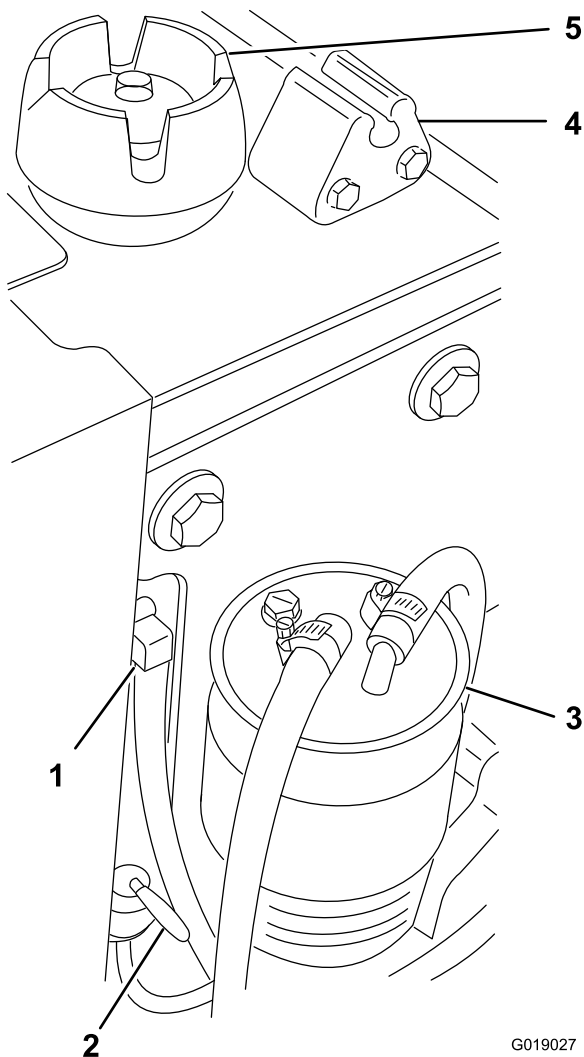

Figure 23
4. Remove the fuel cap and sensor assembly (Figure 23).
6. Install the fuel cap and sensor assembly (Figure 23).